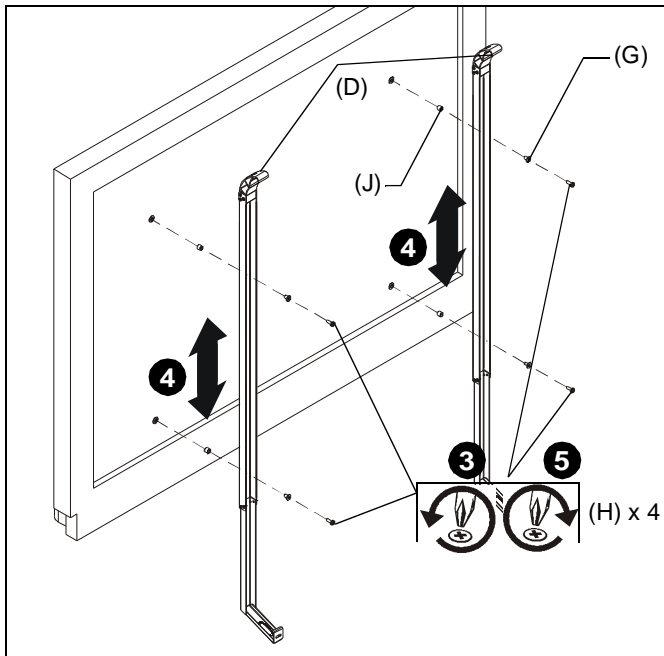

Figure 11
3. Loosen four Phillips head screws on back of white board. (See Figure 11)
4. Adjust white board up or down, as required. (See Figure 11)
5. Tighten four Phillips head screws (H) into four isolation washers (G) and spacers (J) to fasten white board to upright assembly (D). (See Figure 11)